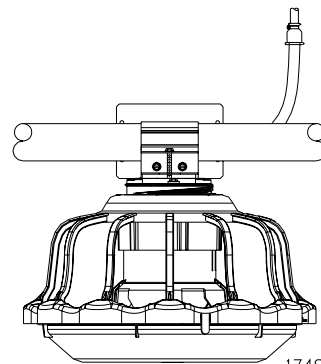

Figure 70 Installing the Sensor Plus Mid Line Control
- Assemble the Mid-Line Control over the outlet hole in Tube as shown in **Figure 70**.